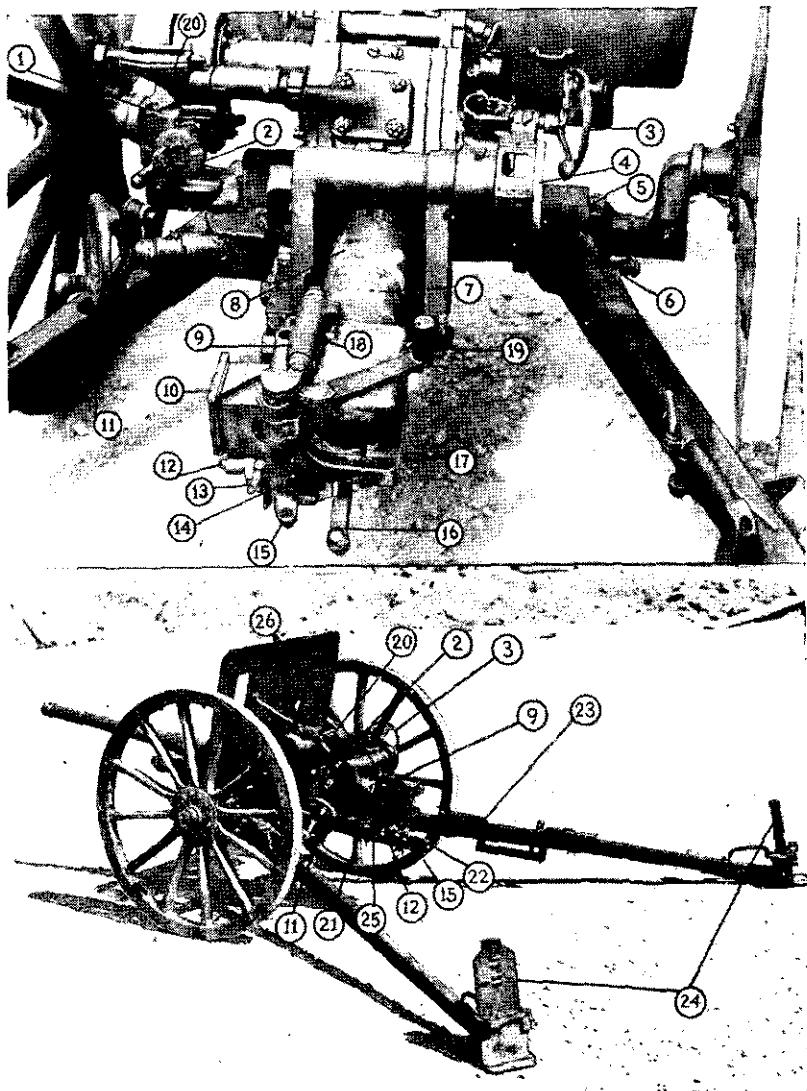

Figure 126.—Two views of Model 94 (1934) 37-mm gun, showing parts.
- (1) The long, slender barrel.
- (2) The low mount.
- (3) The spade brackets on the trails (fig. 126).
- (4) The marking 九四式三七毫米 which is on the barrel. (This marking, which is read *Kyuyon Shiki Sanjunana Miri Ho* from right to left, means "94 model 37-mm gun.")
(Key to fig. 126)